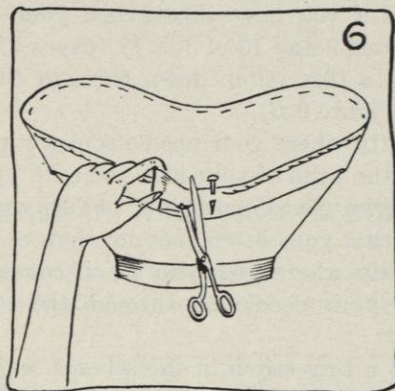

FIG. 6.
- Put a pin in the loose end exactly over the folded edge (see Figure 6).
- Allow $\frac{1}{2}$ inch more for the lap and cut (see Figure 6).